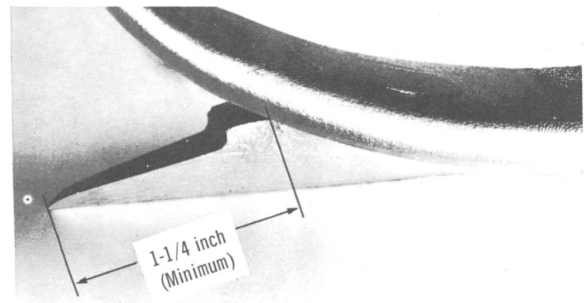

Fig. 22 — Gaff Sharpened to Minimum Length
8.01 When climber gaffs need sharpening and the desired sharpness cannot be obtained by honing as described in Part 7, the craftsman shall exchange them for a pair in good condition. Remove the straps and pads, also the sleeves unless they are riveted, for reuse on good climbers. Equip the climbers to be returned with gaff guards and tape or otherwise tie them together. Fig. 22 illustrates a gaff that has been machine sharpened a number of times, to the minimum length that shall be used.